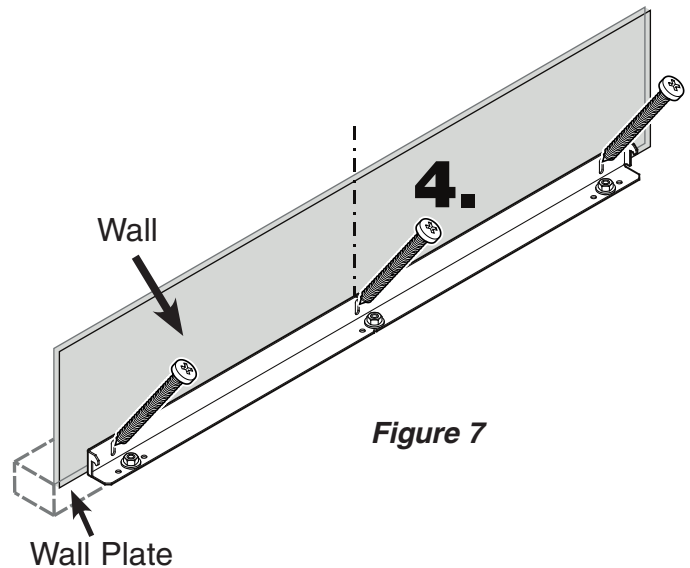

Figure 7
4. Fasten bracket with 3 screws (1/4" x 2-1/8") into the wall plate (**Figure 7**).